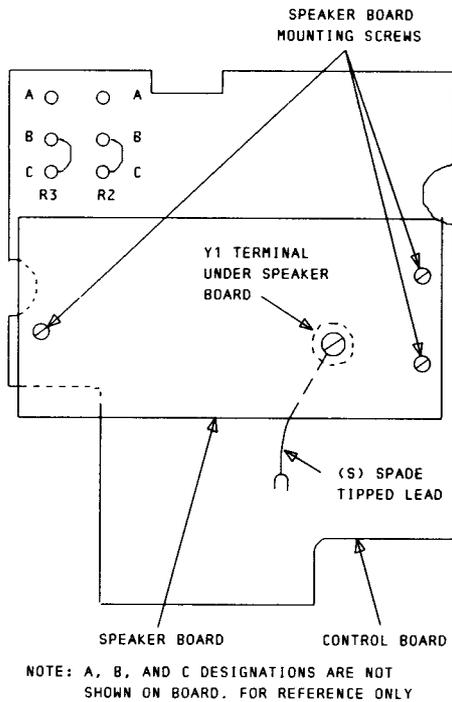

Fig. 5—Control Board and Speaker Board Showing Location of R2 and R3 Option Plugs and Terminal Y1
- (2) If the loss of the loop is 3.9 dB, or less, resistors R2 and R3 on the control board should be placed in the circuit. This is done by moving the option pins from B-C to A-B as shown by Fig. 5.
- (3) If loss of loop exceeds 12 dB the quality of the service may be impaired. Defer, according to local procedures, until an acceptable loop is made available.
‡ Designations are not on board, see Fig. 5.
See Fig. 5 for location of wiring option on control board.